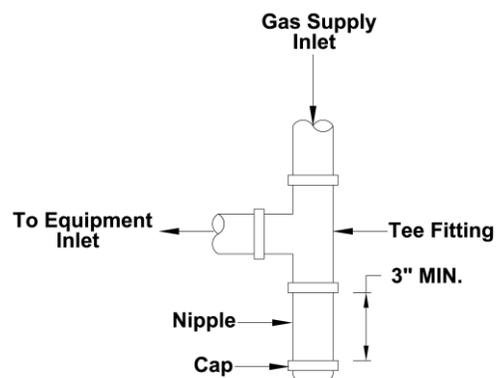

Figure 12: Typical Sediment Trap (required in all installations)
- 🔥 **NFPA Code and Hearthstone require the use of a dedicated sediment trap just upstream of the unit. Damage to the valve or other components, due to the lack of a sediment trap (figure 12), is not covered by warranty.**